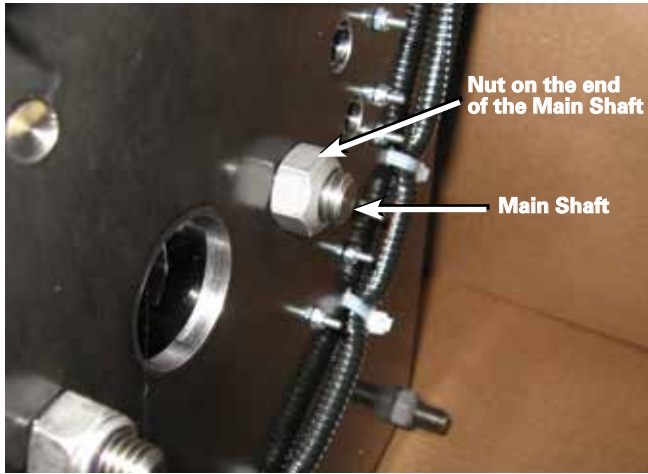

Figure 6. Fastening nut for main shaft.
- Remove the nut on the end of the main shaft using a 3/4" socket wrench. Use a 5/8" open end wrench positioned on the flats of the main shaft to hold the shaft in place during this procedure. Refer to Figures 6 and 7.